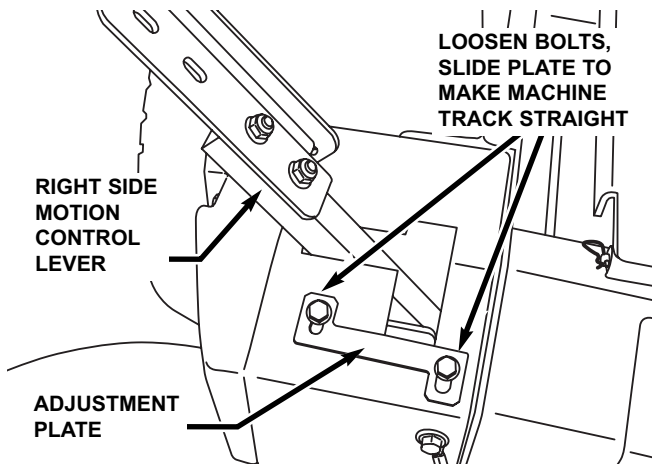

FIGURE 5.12
4. If machine tracks to the left, loosen bolts that secure the right adjustment plate. Move plate rearward to slow the right wheel down. Retighten bolts. See Figure 5.12.